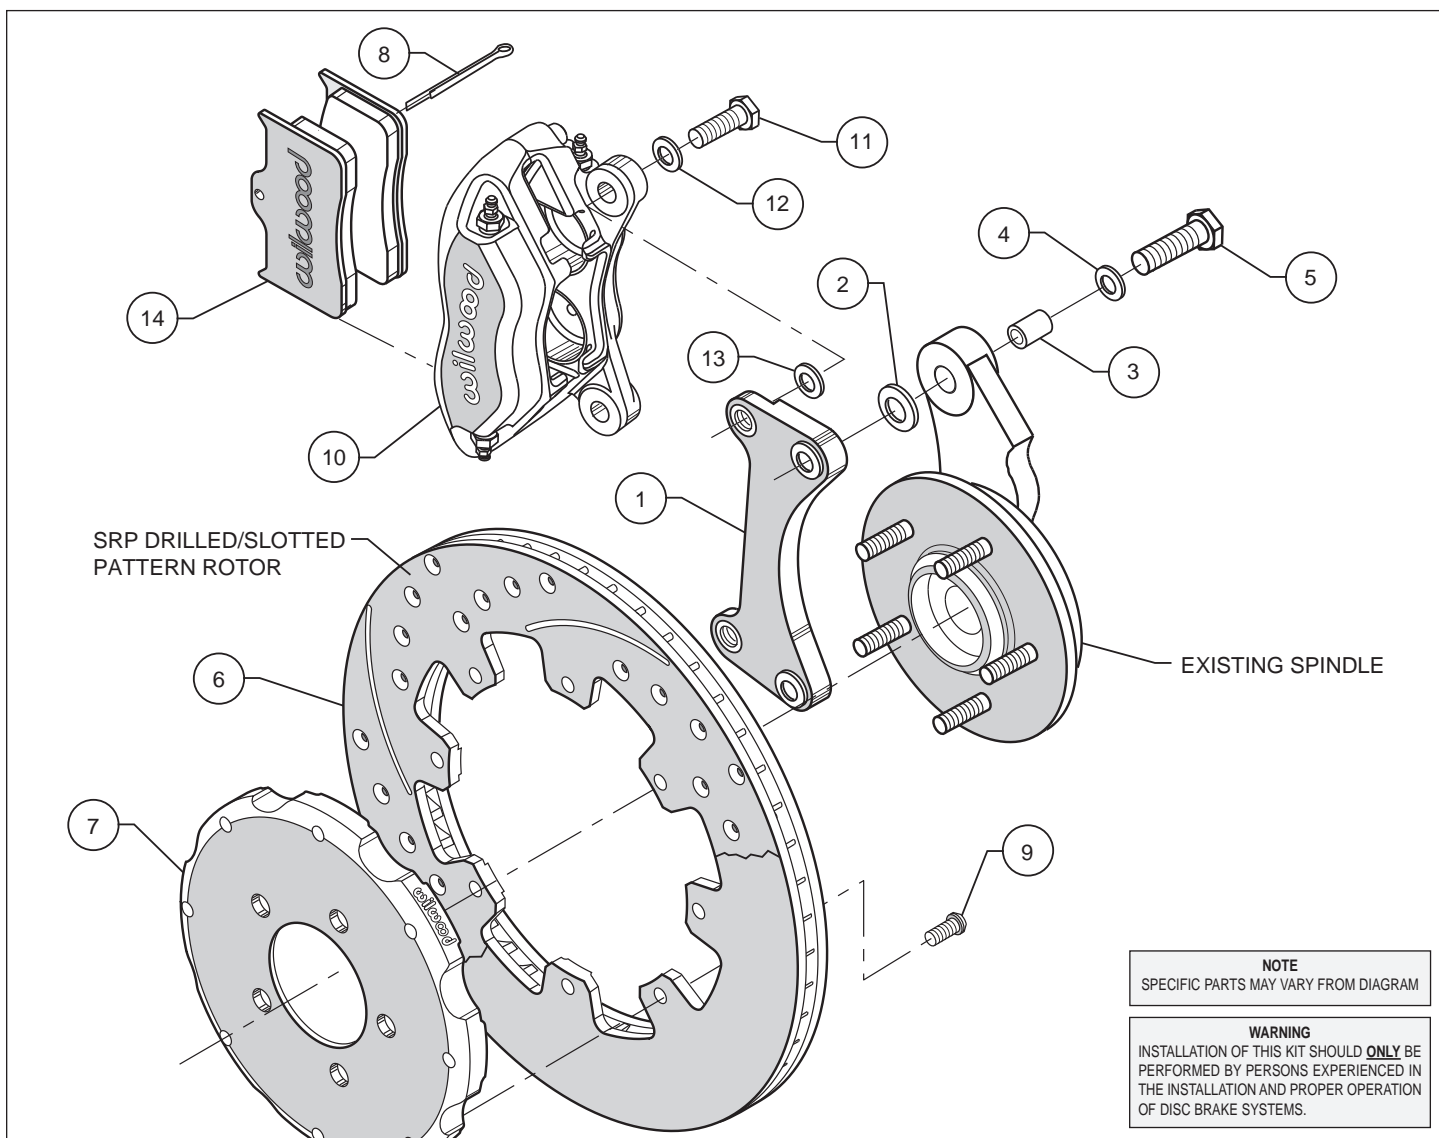

Figure 1. Typical Installation Configuration, Left Hand Application Shown
- Insert one sleeve (3) each into the holes on the top and bottom of the spindle “ears” where the OEM caliper bracket was removed. Apply red *Loctite*® 271 to the caliper mounting bracket bolt threads (5) before installation of the caliper mounting bracket (1). Install the bracket with the flanged heads of the clinch nuts facing outboard, as shown in Figure 1. Slide bolt (5) through washer (4) and into the previously installed sleeve (3), from the backside of the spindle. Position .125" thick washer (2) between the spindle and the bracket. Finger tighten. Repeat for the lower mounting holes. Torque bolts to 60 ft-lb.
- With the larger I.D. side of the rotor (6) facing away from the hat (7), attach rotor (6) to hat (7) using bolts (9) as shown in Figure 1. Using an alternating sequence, remove bolts (9) one at a time, apply red *Loctite*® 271 to the threads, and torque to 25 ft-lb.